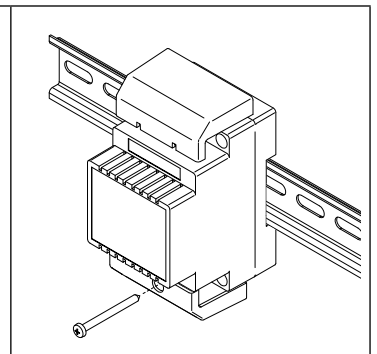

Fig. 6
- Once testing is complete and all the necessary adjustments are made, disconnect the handset from the cover and close the unit as shown in Fig. 6: first hook it on the bottom then push in the top until you hear a "CLICK!".
5. When all connections are made replace and fix the terminal covers with the relevant screws (Fig. 6);
Apply the (Y) seal as shown in **Fig. 6**.